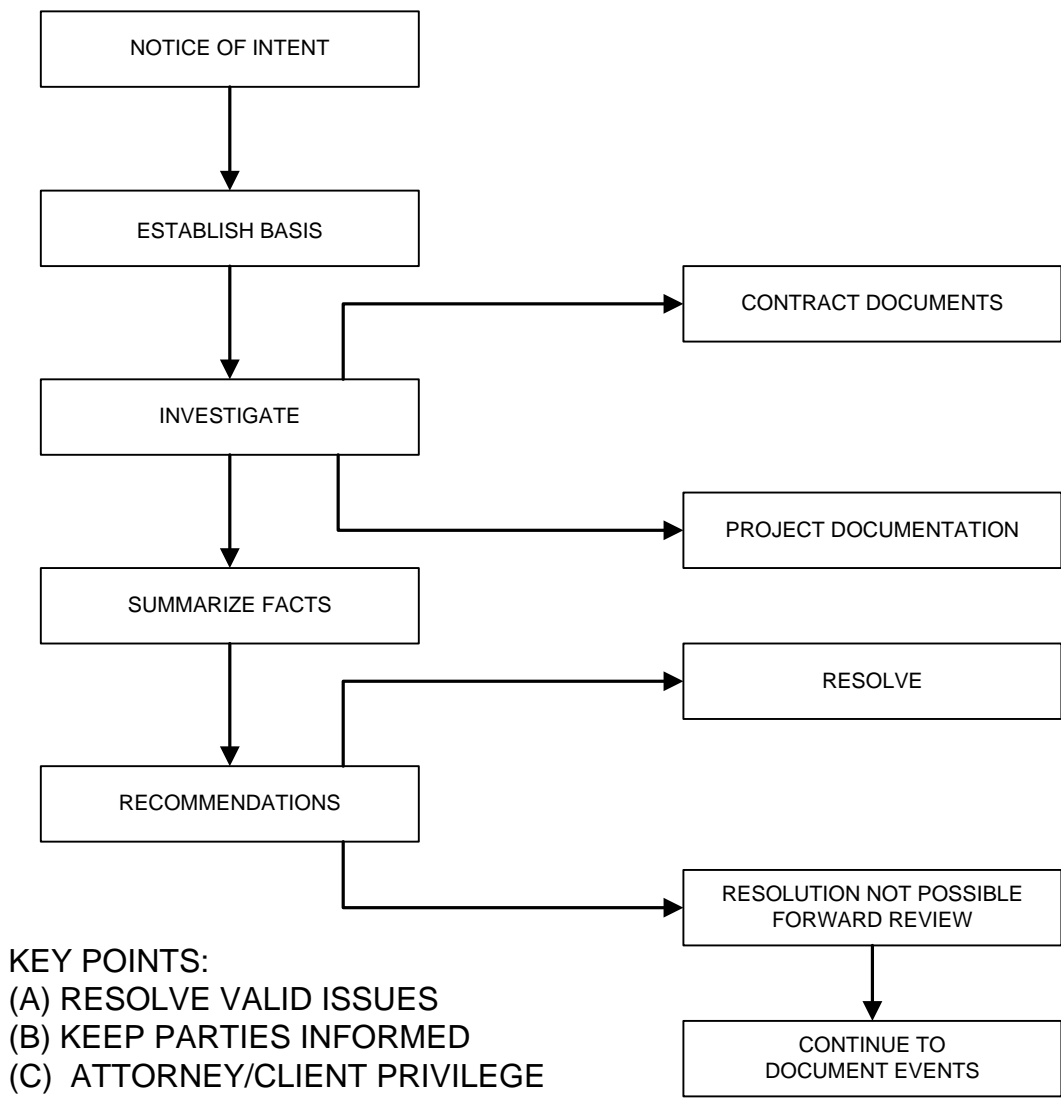

FIGURE 1: NOI ANALYSIS
3. Perform a NOI analysis. (See Figure 1 Flow chart for “NOI Analysis”)